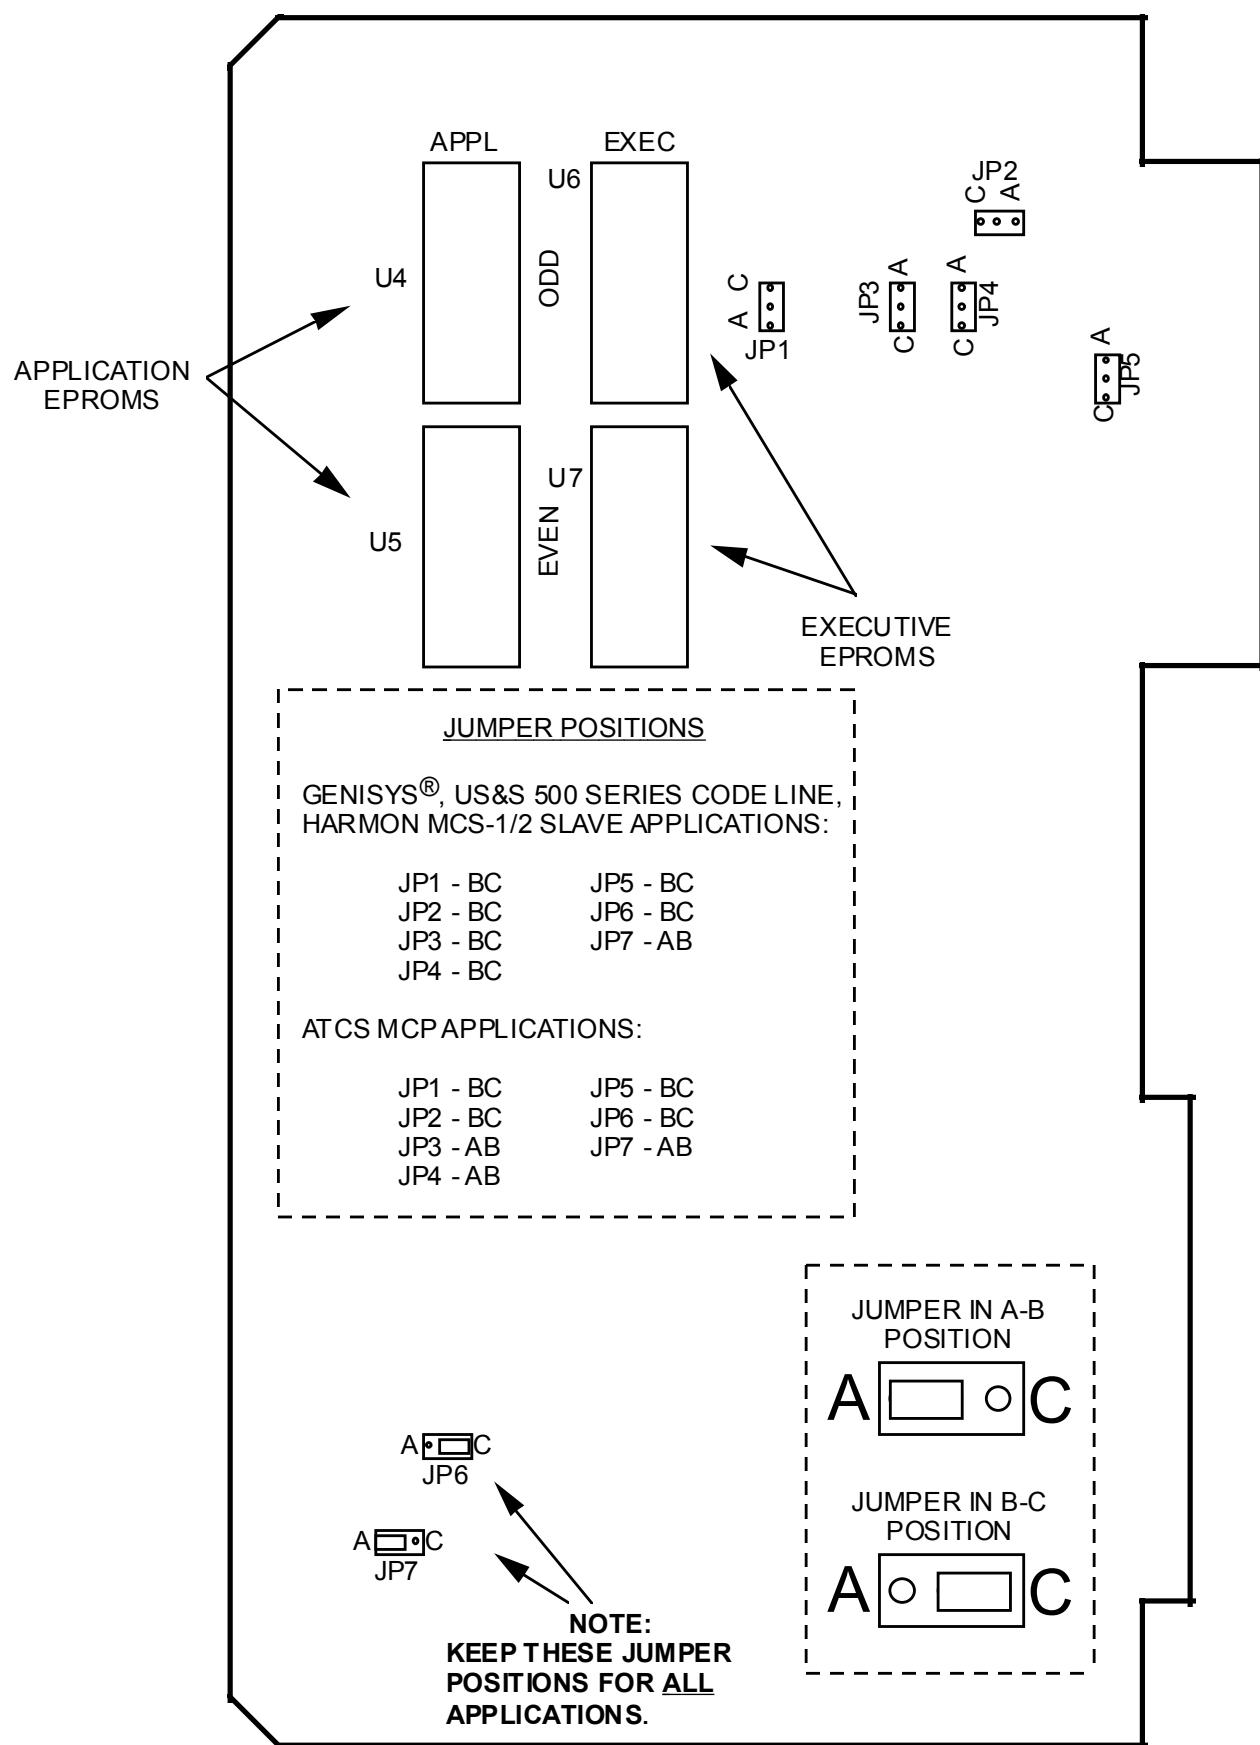

Figure 2-2. Enhanced Controller PCB: EPROM and Jumper Locations
2.3.2 Pre-Installation Preparation (Ref. Figure 2-2)**2.3.2.1 EPROMs**